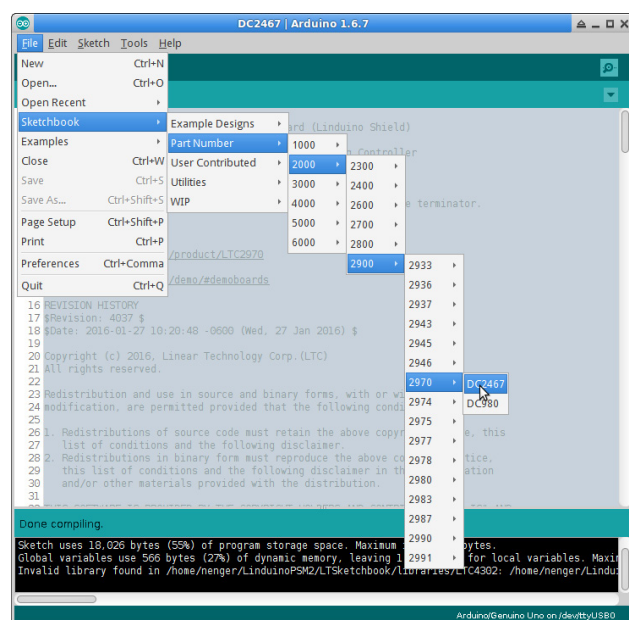

Figure 2. Open the DC2467 Sketch from the Sketchbook Menu
Begin by opening the Arduino software. Select the DC2467 sketch in the Arduino File menu (Figure 2):
2. Load the DC2467 Linduino sketch (Figure 2 and Figure 3).